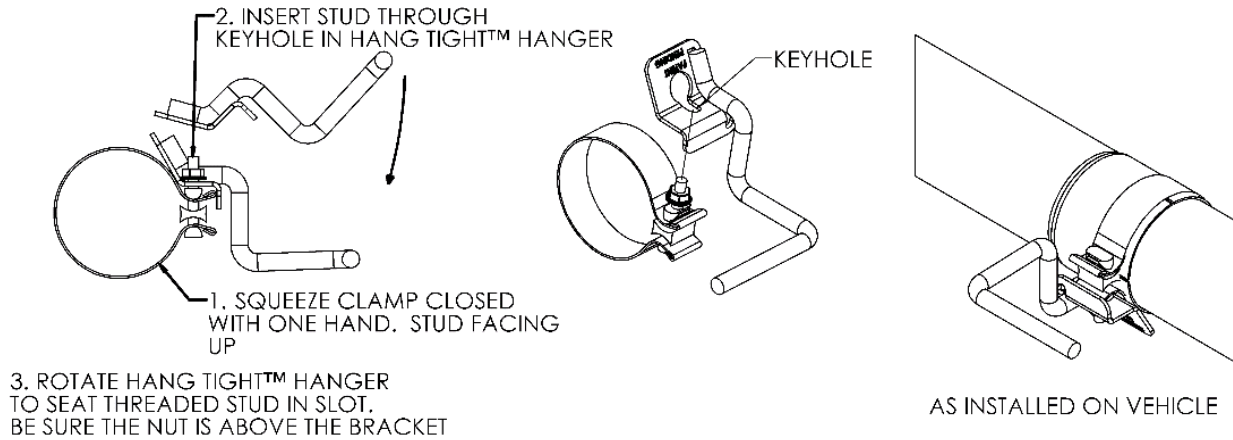

Figure 1
2. Install the **4" to 5" Extension Pipe (46.75")** over the **Down Pipe** securing it with the **4" Band Clamp** and **Front Hang Tight™ Hanger** (See figure 1 for Hang Tight™ instructions). Install the **32" Extension Pipe** onto the **4" to 5" Extension Pipe** securing it with a **5" Band Clamp**. The combination of these two **Extension Pipes** provides the required length to fit a Quad Cab Long Bed truck, for Quad Cab Short Bed cut the **32" Extension Pipe** to 16" and for Regular Cab models cut down to 12".